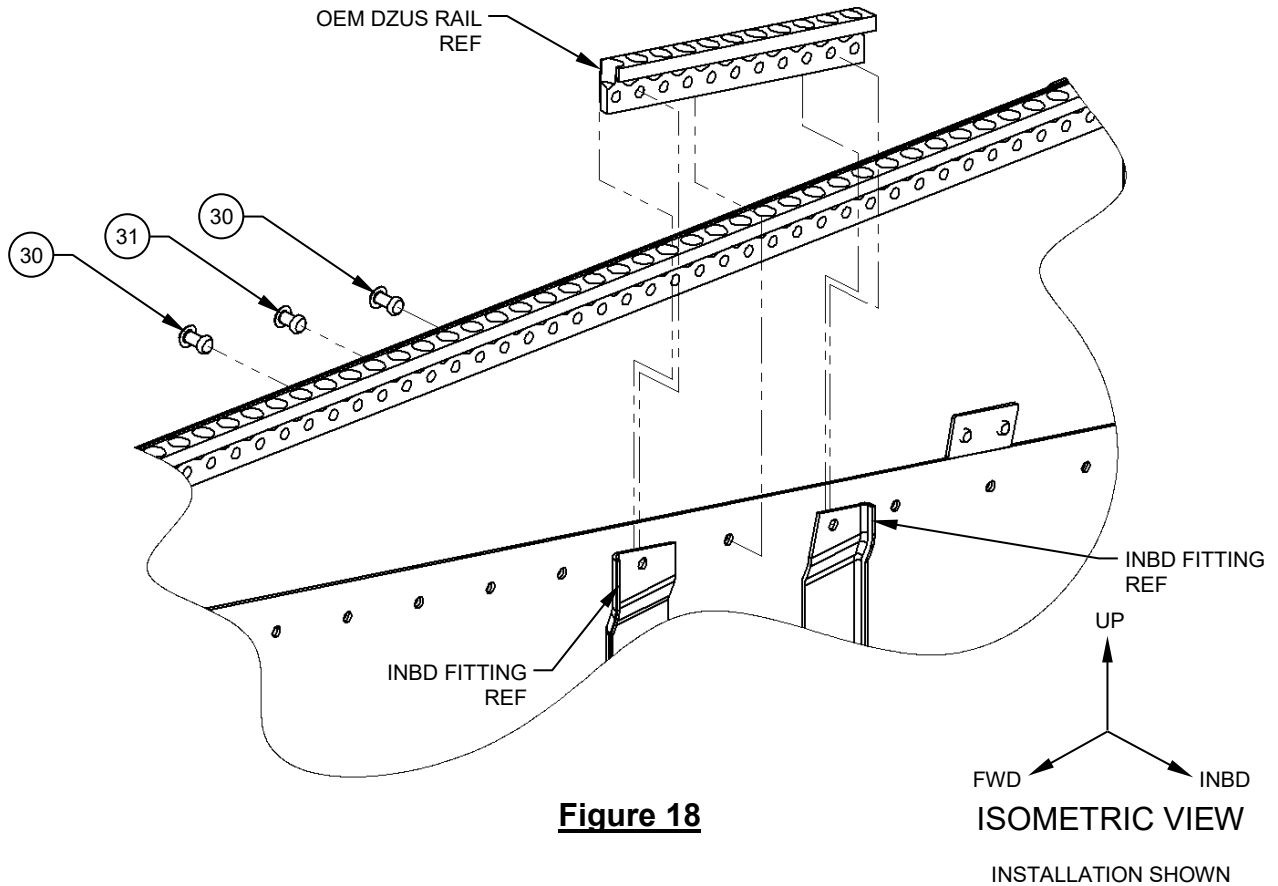

Figure 18
4.6. Starting on the RHS. Using the OEM RHS Dzus Rail, trim as shown for packing purposes on the two inbd fittings. Drill through from the INBD side 2x Rivet, Solid, Universal Head, (Item 30), and 1x Rivet, Solid, Universal Head, (Item 31). See Figure 18.